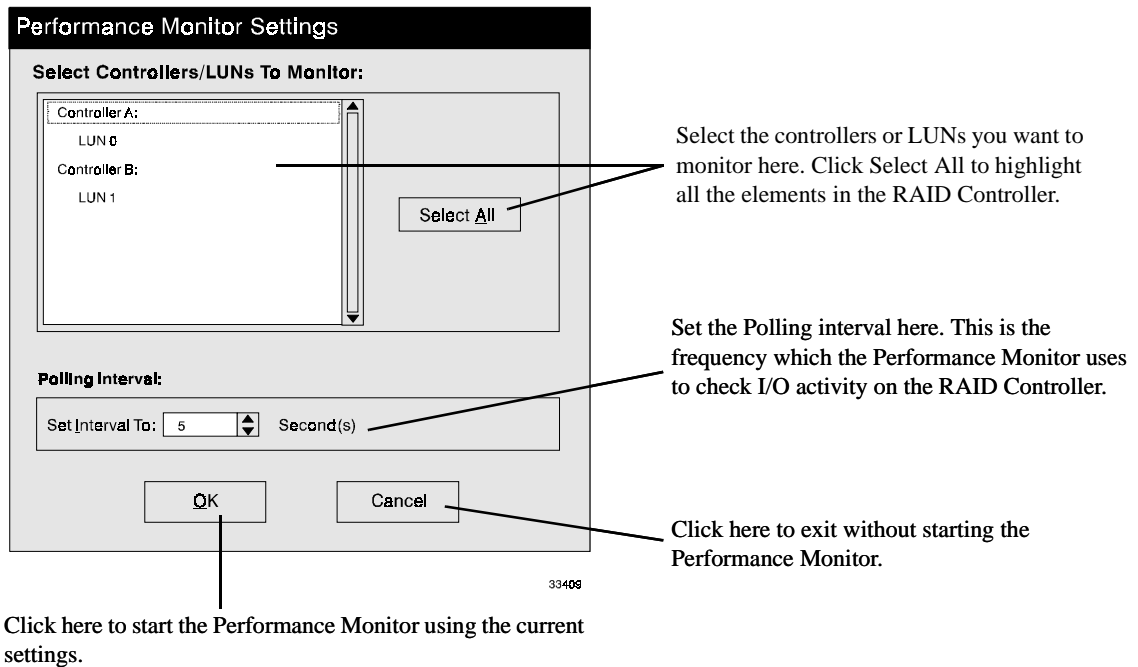

Figure 45. Performance Monitor Settings Screen
3. Click on the Performance Monitor button or select Options → Performance Monitor from the drop-down menus. A screen like Figure 45 is displayed.
Click here to change the Performance Monitor settings (see Figure 45 on page 87).
This screen shows the performance data collected by the Performance Monitor. It is updated at the interval specified in the Polling Interval setting (see Figure 45 on page 87). See Table 14 for a description of the screen contents.
Click here to change the polling setting (see Figure 45 on page 87).